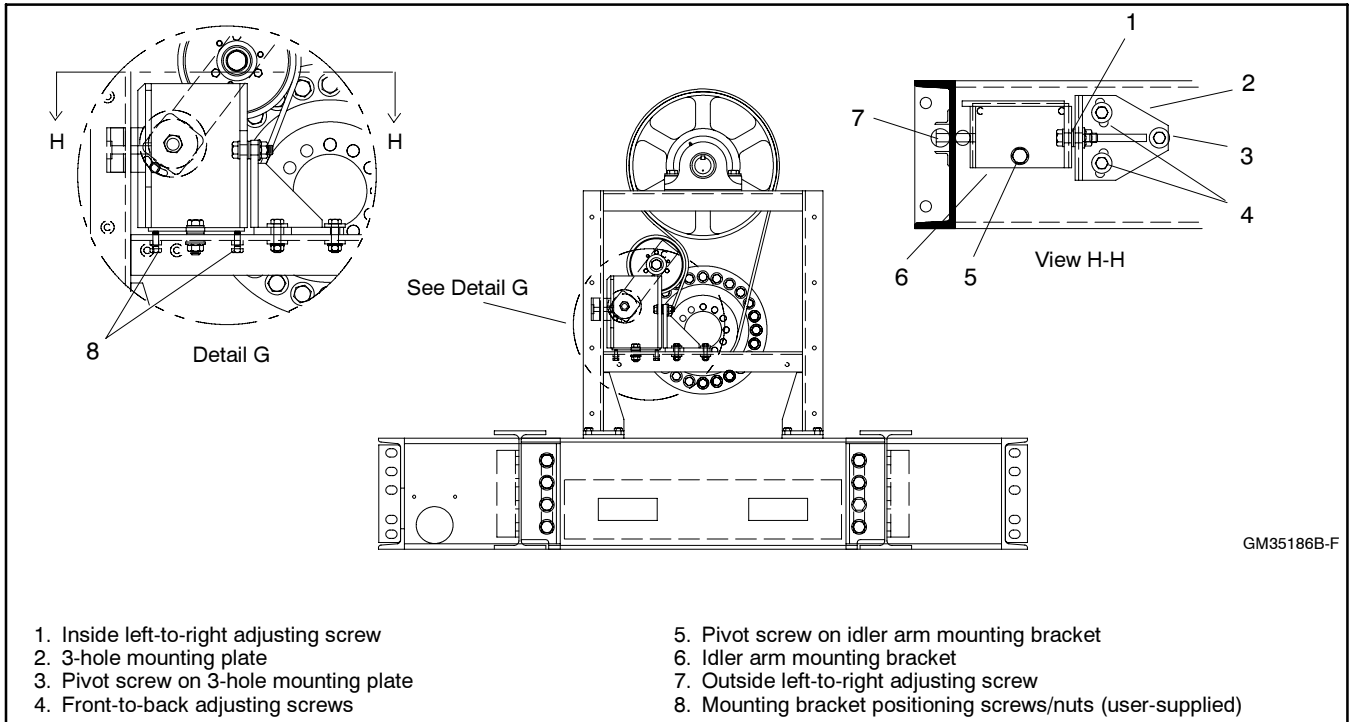

Figure 3-23 Idler Pulley Arm Bracket and Plate Adjustment
- (1) Adjust the idler pulley assembly using the adjusting screws shown in Figure 3-23.
- (2) Check that the inside and outside left-to-right screws are tight.
- (3) Loosen the pivot screw on the idler arm mounting bracket.
- (4) Loosen the pivot screw on the 3-hole mounting plate.
- (5) Loosen the front-to-back adjusting screws.
- (6) Loosen the two adjusting screws and mounting bracket screw.
- (7) Adjust, as necessary, the idler pulley horizontal parallel alignment to the engine drive pulley. This adjustment is made by lightly tapping the idler arm mounting bracket and 3-hole mounting plate with a hammer.
- (8) Tighten the two front-to-back adjusting screws and pivot screw on the 3-hole mounting plate.
- (9) Loosen the inside and outside left-to-right adjusting screws.
- (10) Temporarily install (user-supplied) two screws M10-1.5 x 30, grade 8.8 (M933-10030-60) with nuts M10-1.5 as shown in Figure 3-23. Use these two screws to adjust the vertical parallel alignment of the idler arm mounting bracket. Use the nuts to lock to screw positions.